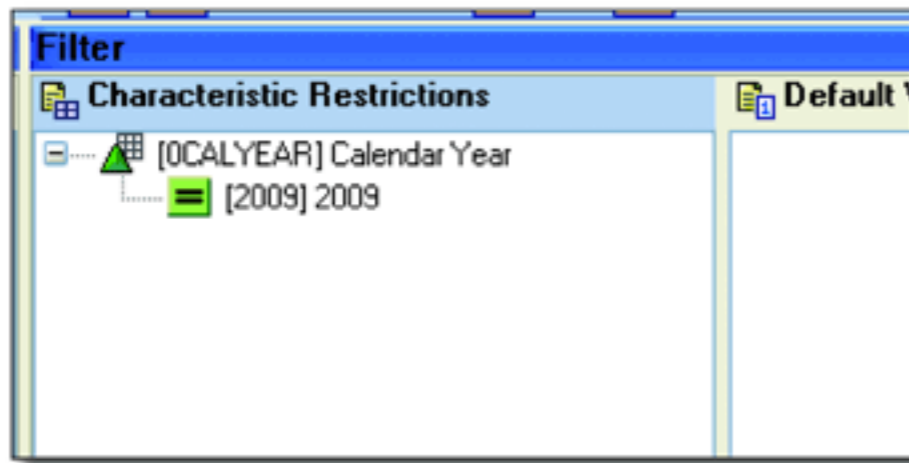

Figure 9.11 Calendar Year Restriction
Using the SAVE button (❺), you can save this selection as a variant in your favorites so that you can use it in the future. Finally, click on OK (❻) to confirm the selection and return to the query definition. You can see that the characteristic CALENDAR YEAR is now restricted for year 2009 (see Figure 9.11).